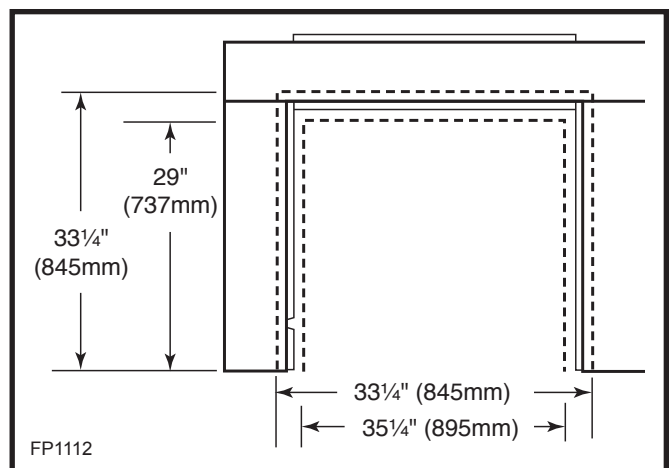

Fig. 25 The fireplace opening must conceal the inner edges of the trim as well as accommodate the insert.
- To allow insertion of the fire box, the opening must be at least 33 1/4" (845mm) wide, and 29" (737mm) high. To ensure coverage of the trim inner edges by the installed WinterWarm fire chamber, the opening must be not more than 35 1/4" (895mm) wide, and 33 1/4" (845mm) high. Figure 25 demonstrates these dimensions.